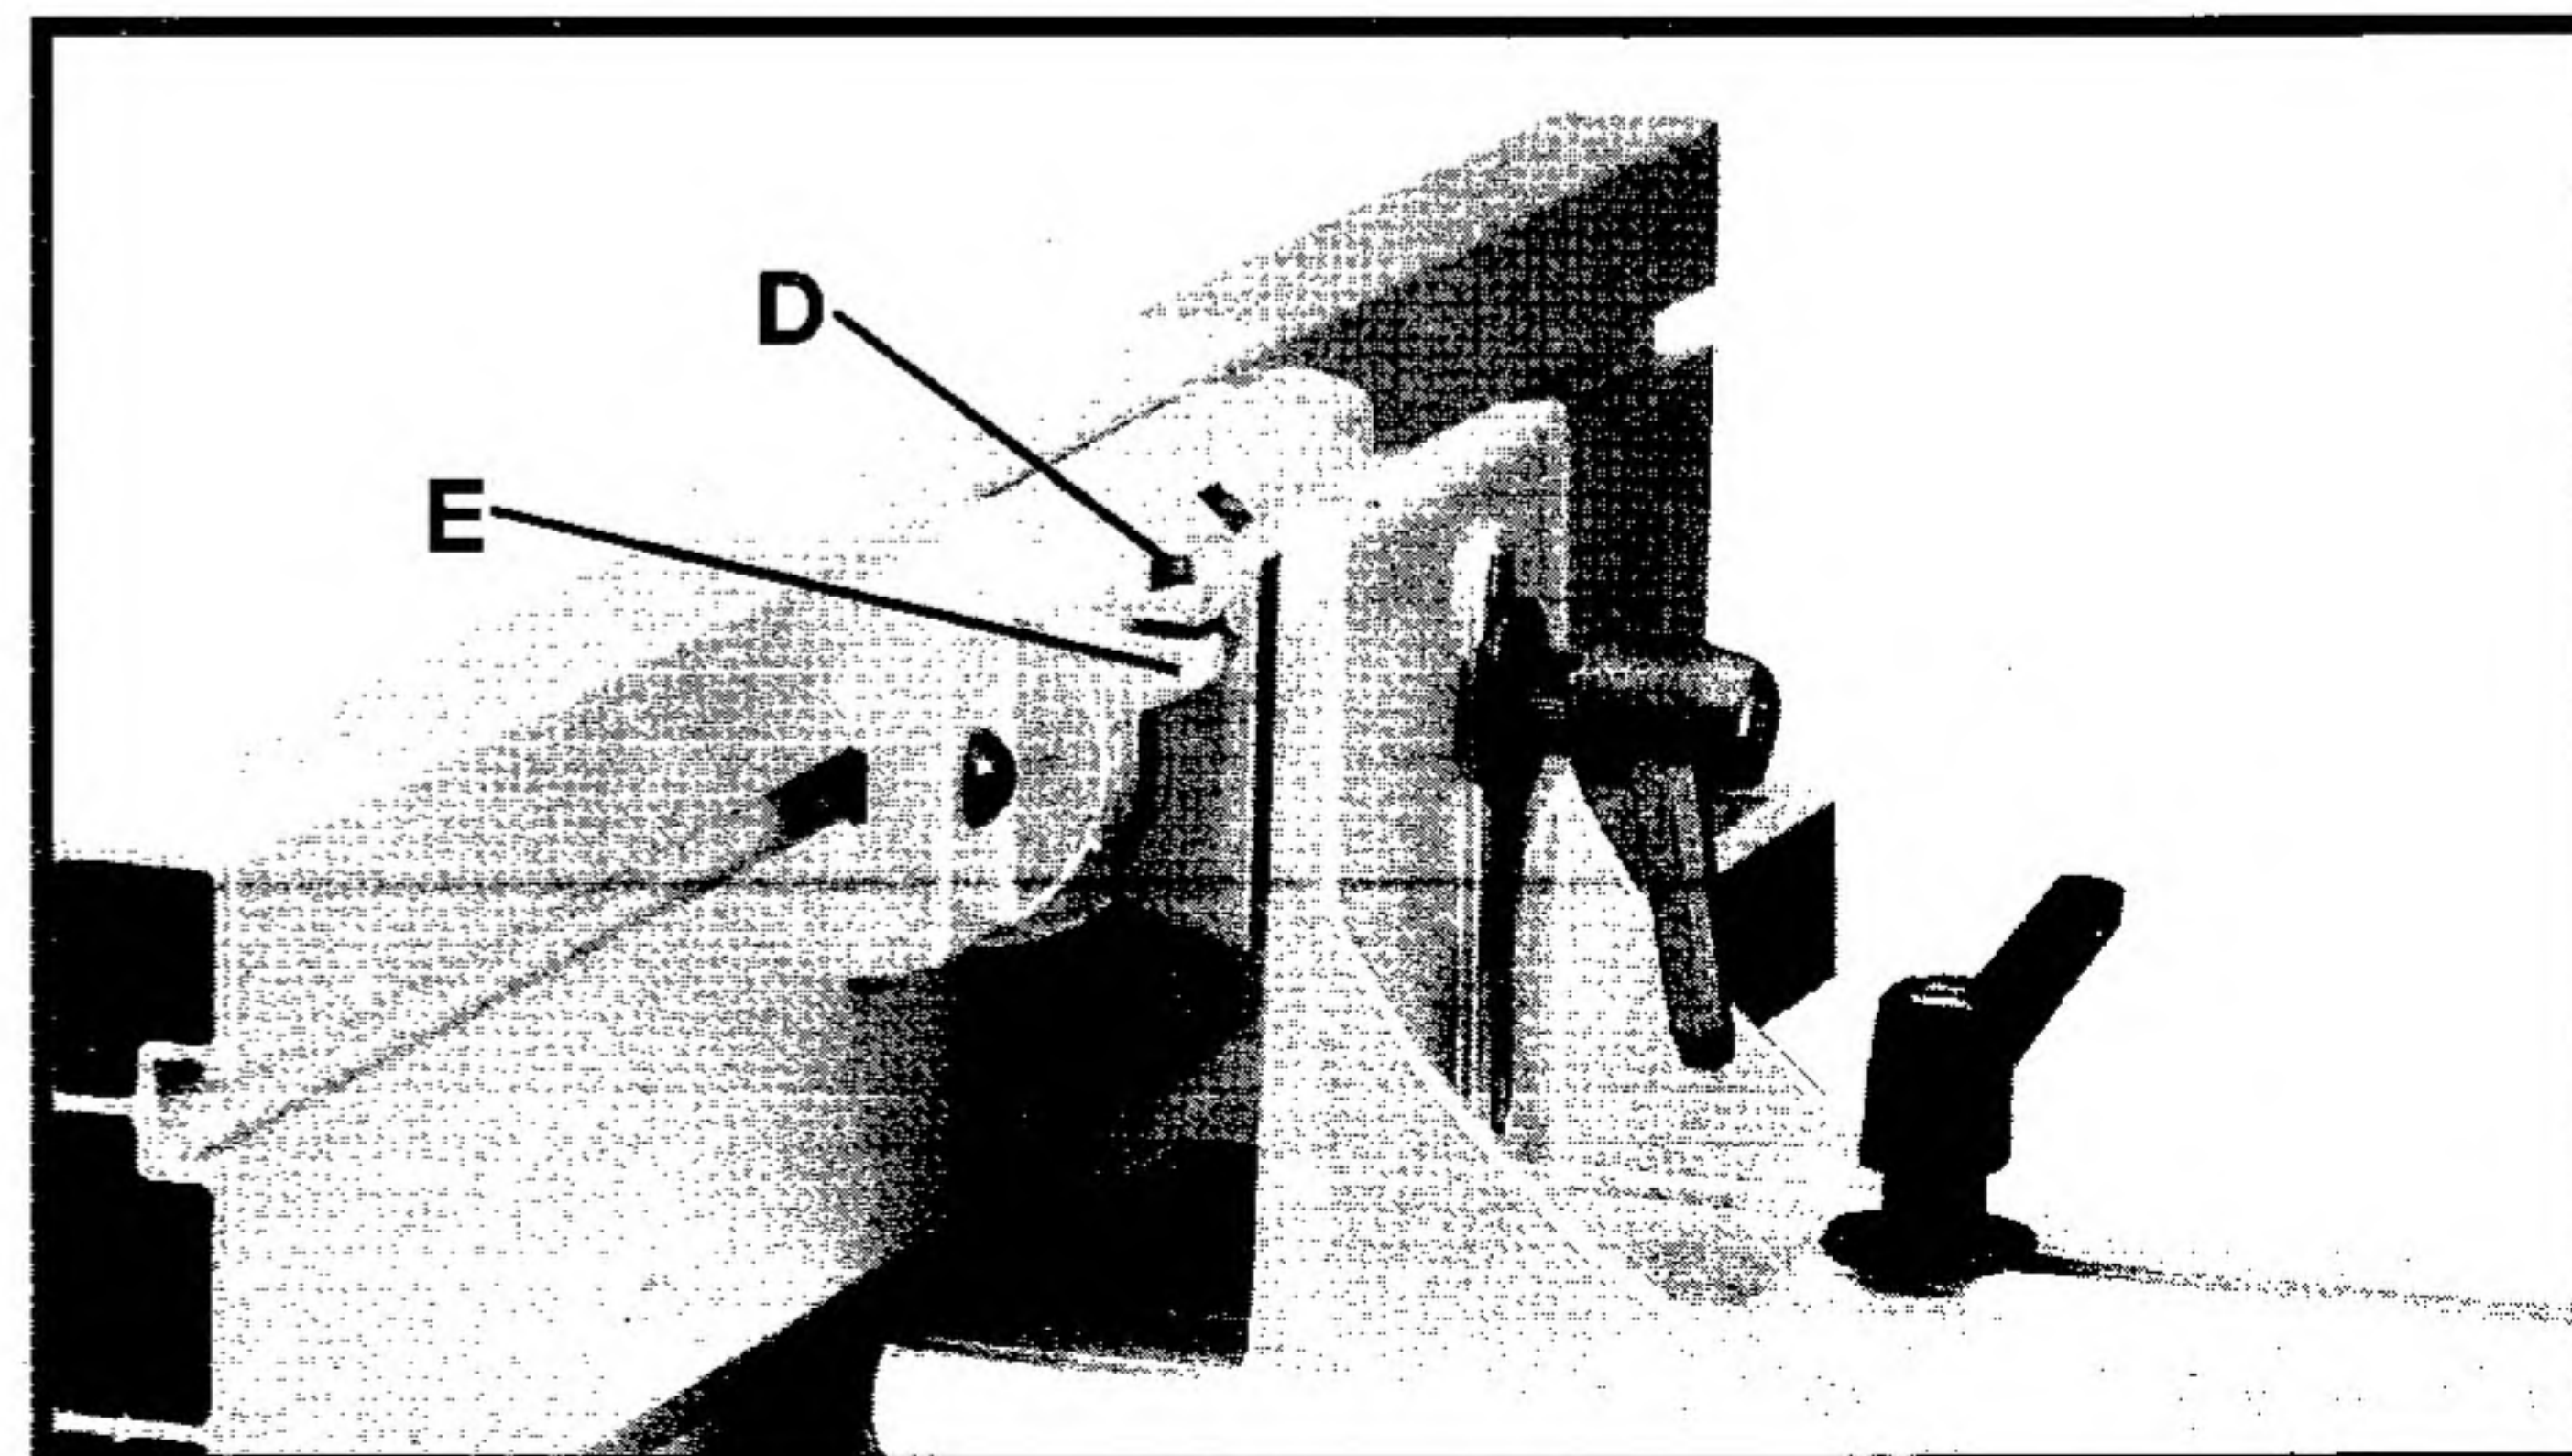

Fig. 27
5. Using supplied hex wrench (No. 10, Fig. 4A), turn set screw (D) Fig. 27 until it contacts stop (E).